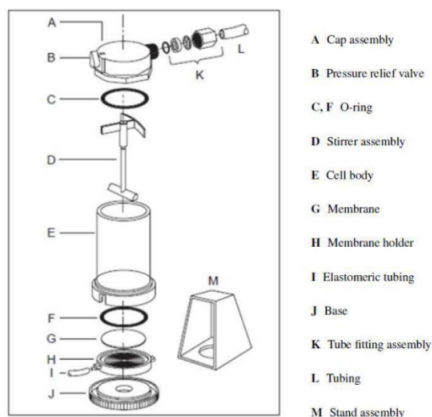

Figure 1: Overview of the different parts in the experiment
In fig. 1 there is an overview of the ultrafiltration cell. When handling the membrane (G), it is important to wear gloves to avoid scratching or contaminating the membrane. Start by placing the membrane in the membrane holder (H), and make sure the shiny side is facing up. Place the O-ring on top of the membrane, and gently push it down to fit the membrane. Place the membrane holder on the bottom of the cell body (E), and fit the base (J) over the holder. To avoid air leakage When the cell is pressurized, screw the base firmly to the body. See to that the filtrate exit tubing (I) fits firmly onto the exit spout of the membrane holder. Place the stirrer assembly (D) into the cell body and pour the given feed into the cell. Take the cap assembly (A) and push it onto the cell body. It is necessary to make a twisting motion, and use some force at the same time. See to that the pressure relief value (B) is oriented in the same direction as the filter exit port. Place the cell body into the stand assembly (M) and turn the pressure relief value to the closed position. Fit the tubing of the gas pressure line (L) to the cap assembly and tighten the hexagonal nut (K). Place the beaker on the scale next to the ultrafiltration cell.